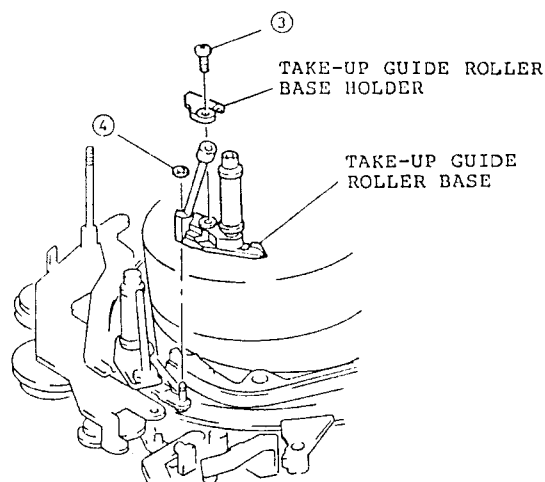

Fig. 2-82
3. Remove one (1) screw holding the take-up guide roller base holder. (See Fig. 2-82)
4. Remove one (1) washer holding the take-up guide roller base.
(See Fig. 2-82)